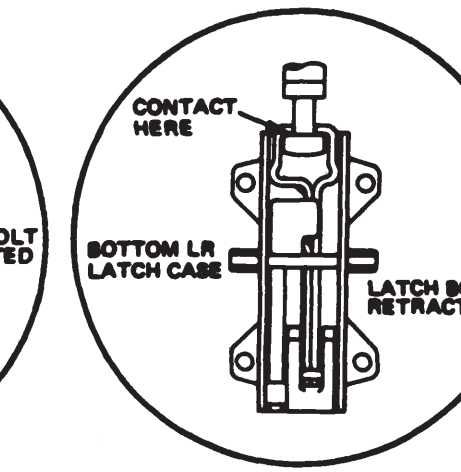

FIG. 6
- Adjust rod so rod connector fits as shown. (Fig. 6.)